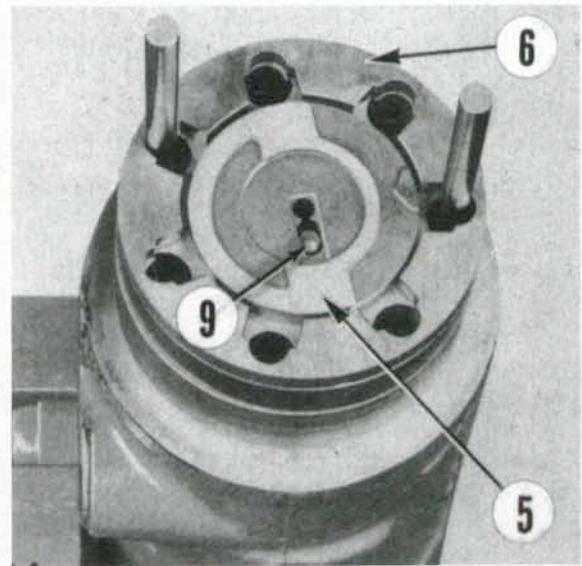
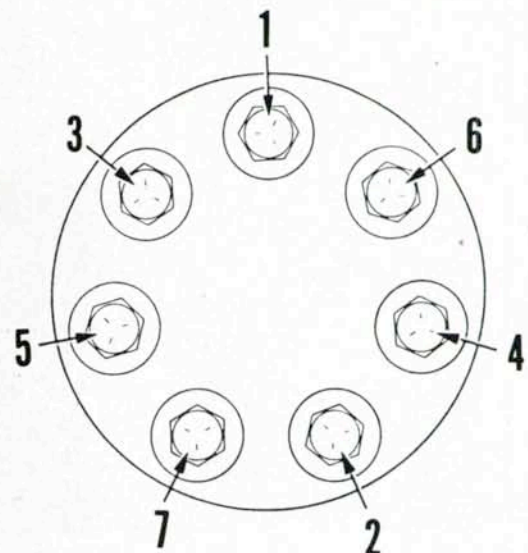

Fig. 71—Be sure that nose of drive link (9) engages slotted hole in commutator (5).
Fig. 72—Tighten steering motor end cover retaining cap screws in the sequence shown.
70) with circular slotted side up. Install commutator ring (6) making sure that side of ring with slot (S) faces down. Place commutator (5—Fig. 71) into commutator ring with counterbore side up. Be sure that nose on drive link (9) engages slotted hole in commutator. Install seal (3—Fig. 64) and retainer (4). Use a small amount of grease to stick washer (2) in position on end cover (1), then install end cover making sure that pin in end cover engages center hole in commutator. Install cap screws and tighten to an initial torque of 3 ft.-lbs. (4 N·m) following the sequence shown in Fig. 72. Make certain that input shaft turns freely, then tighten cap screws to a final torque of 20 ft.-lbs. (27 N·m) in sequence shown in Fig. 72. Note that input shaft must rotate when a torque of no more than 100 in.-lbs. (11 N·m) is applied to the shaft.